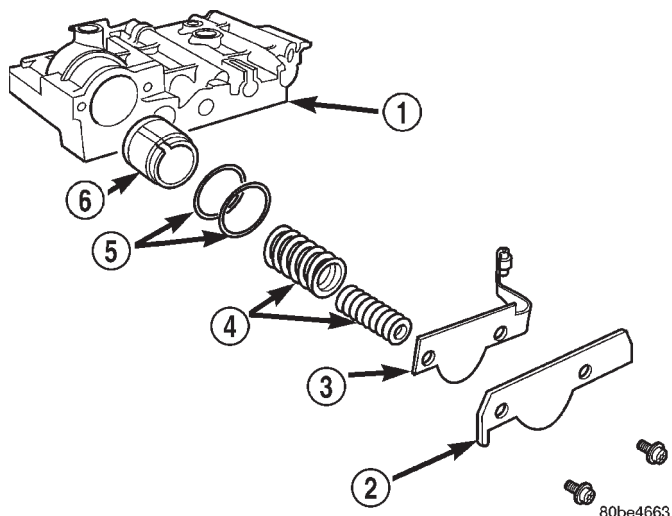

Fig. 131 2/4 Accumulator Assembly
(13) Remove 2/4 accumulator assembly as shown in (Fig. 131).